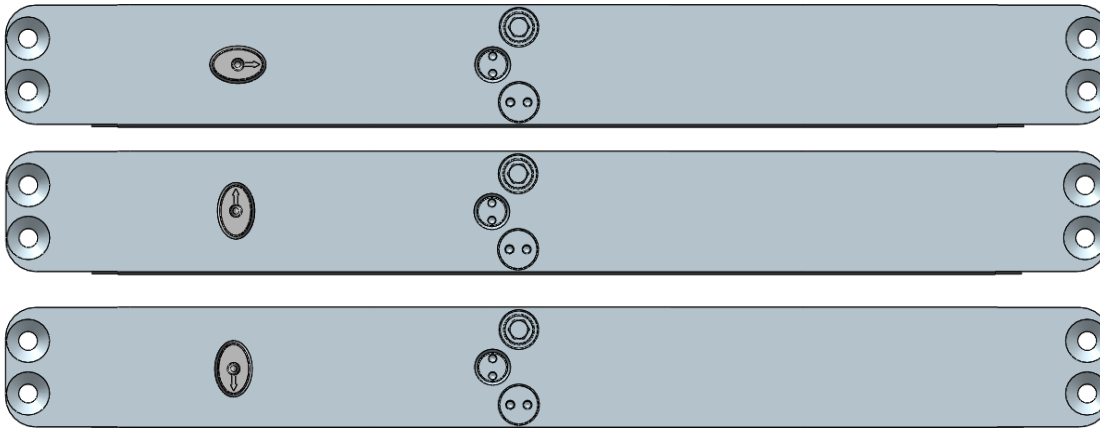

Figure 14:
2. Ensure the closer is orientated correctly for installation with the Floor Plate (Figure 14). Remove floor closer from bottom rail and use floor plate to orientate correctly if closer has moved.